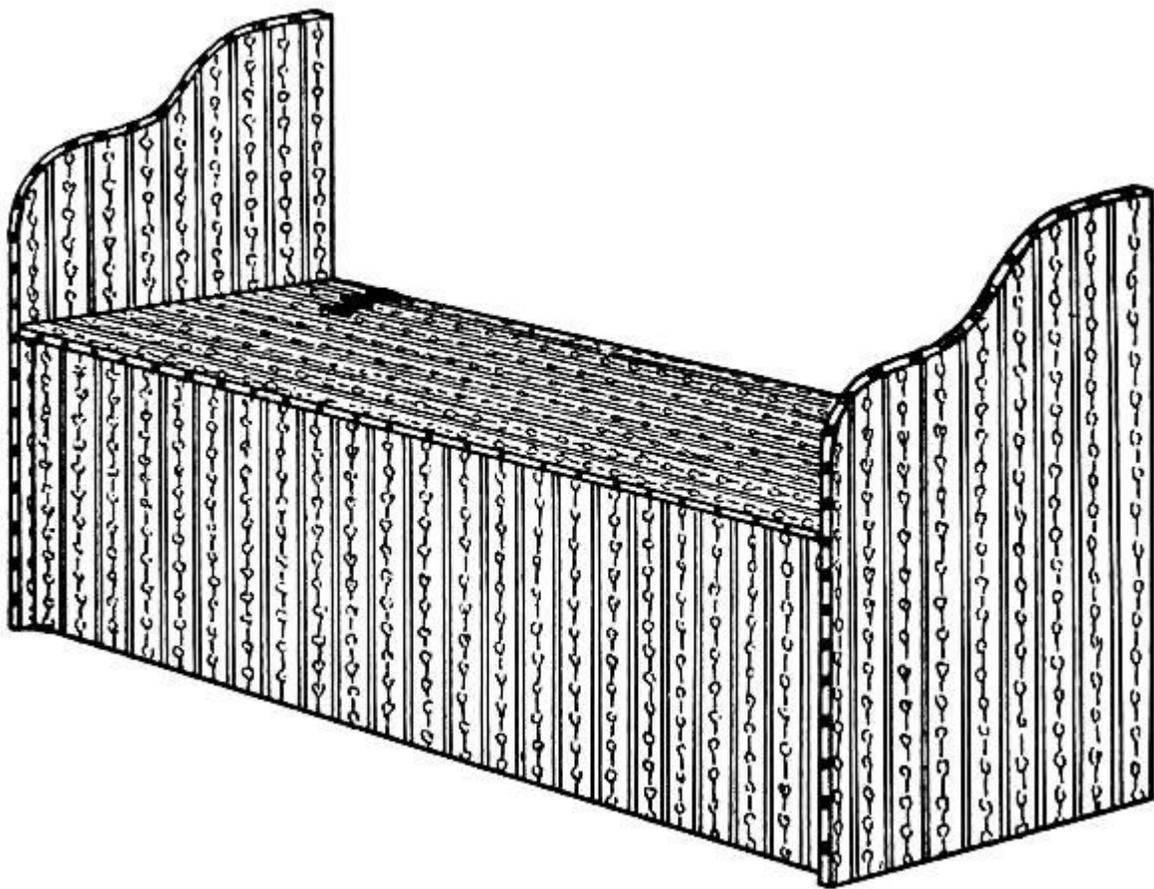

FIG. 58.—A Window-seat.
**A Window-seat**, such as is shown in Fig. 58. Cut the arms the shape shown in the illustration and fasten them to the ends of the